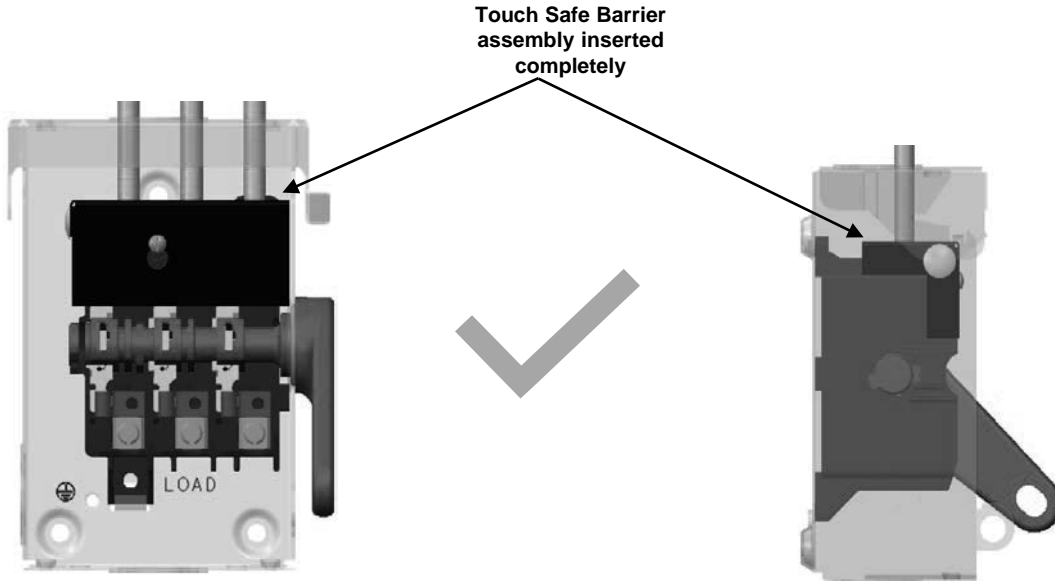

Fig. 3
4. To ensure the barrier blocks inadvertent access to the line terminal, ensure the barrier is snapped down and the wires exit through the holes in the barrier. See Fig. 3